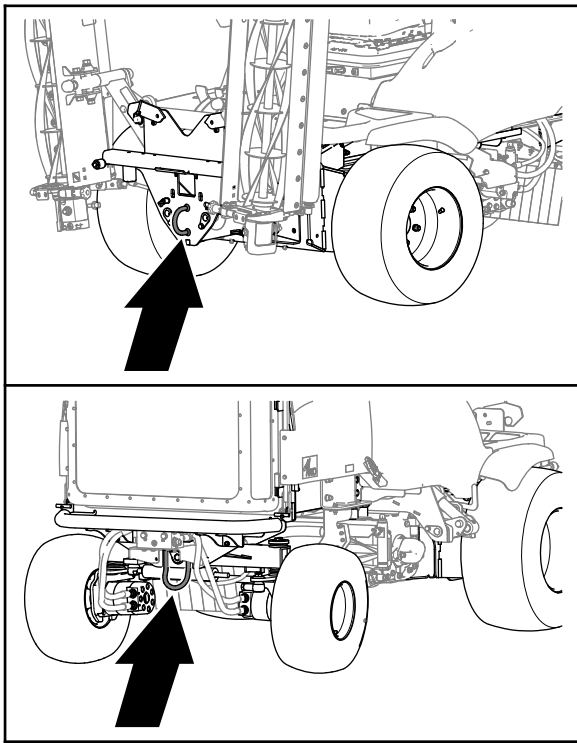

Figure 35
5. Connect a **rigid** tow bar between the front tow ring of the machine and the tow vehicle (Figure 35).